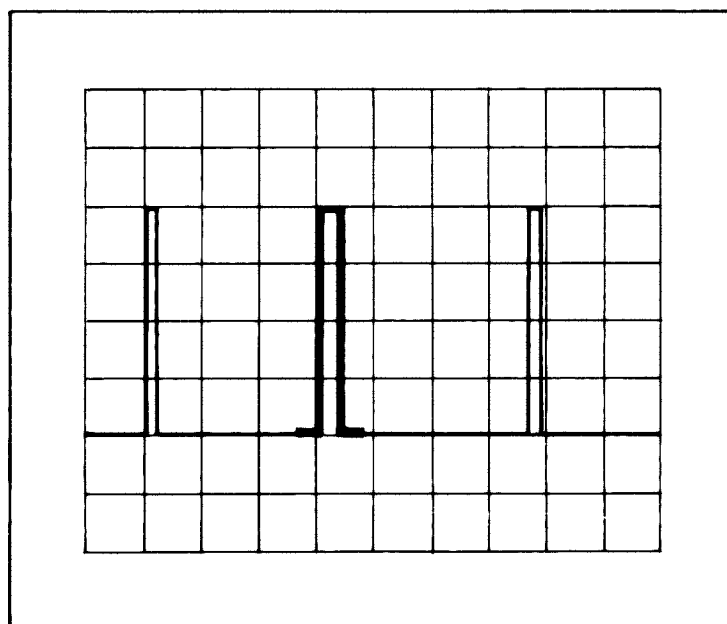

Figure 5-7. Equipment Calibration Waveform
9. Adjust Delay dial for an intensified area over the center pulse as shown in Figure 5-7. If intensified area is not visible, decrease intensity of display.